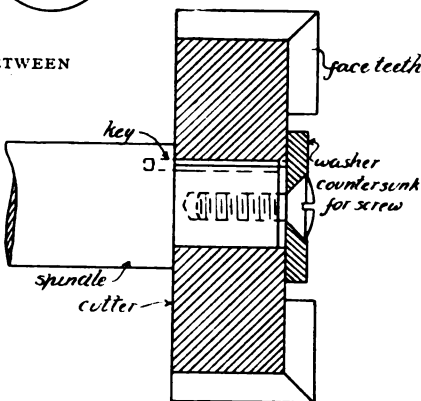

FIG. 3.—SPINDLE FOR CUTTER WITH FACE TEETH.
and washer may be used, as shown in Fig. 3. Where face teeth are present, the fixing arrangements will not under these conditions project. (2) Make all cutters of about the same size to fit a standard spindle and group the cutters into two or three sizes with a spindle for each. (3) We do not know exactly how they are made, but if you make your own cutters you may drill the keyway hole before the large hole for the spindle is bored. In the case